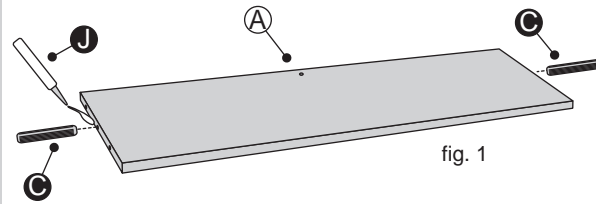

fig. 1
1. Place a small amount of Glue **J** into the dowel holes. Then insert Dowels **C** into the Top Panel **A**. See fig. 1.